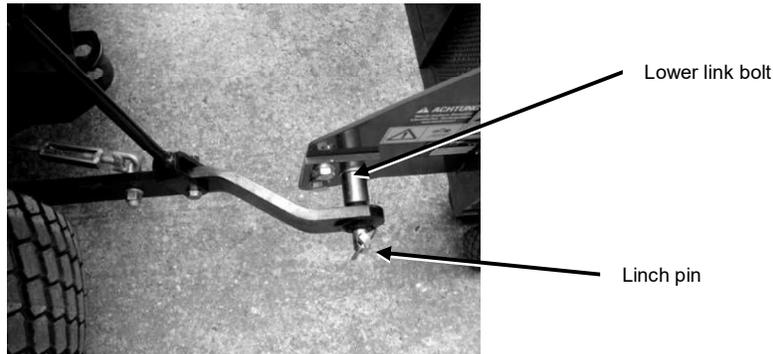

Fig. 32: Lower link bolt on the CLS
3. Remove the lynch pin on the lower link bolt (see Fig. 32).